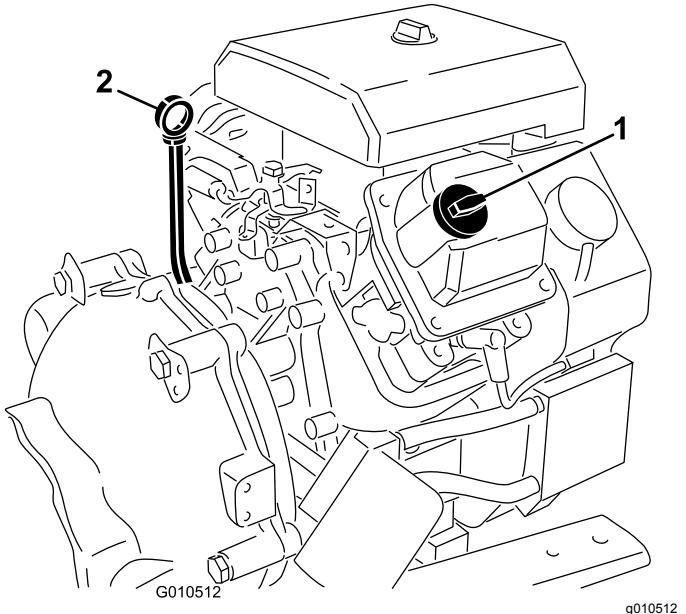

Figure 32
7. If the oil level is low, remove the filler cap (Figure 32), and add enough oil to raise the level to the Full mark on the dipstick.
4. Remove the dipstick and wipe it with a clean rag (Figure 32).